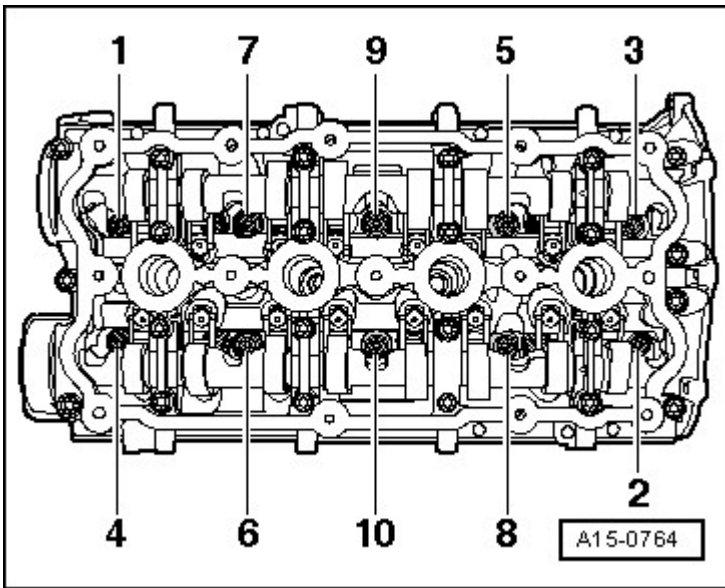

Fig. 11: Cylinder Head Bolt Loosening Sequence
- Observe sequence for loosening, refer to **Fig. 11**